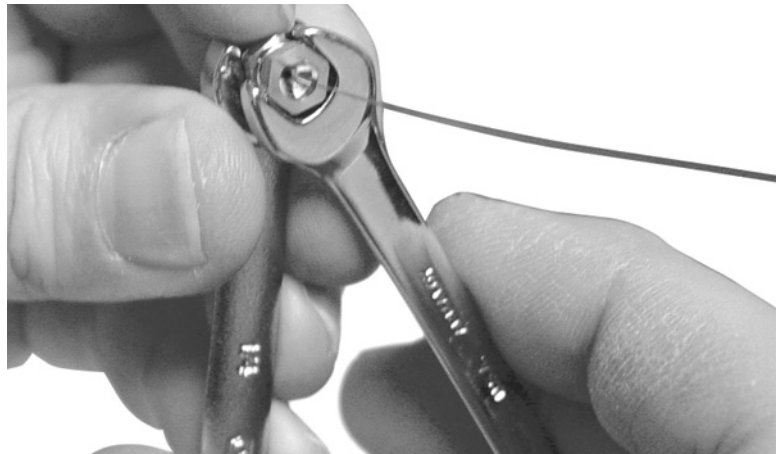

Figure 3 Tightening the swaging nut
- 3** Using two wrenches against each other, tighten the two nuts together a little at a time, occasionally checking to see if the ferrule is gripping the tube (see Figure 3). When the ferrule just starts to grip, notice position of the nuts and then tighten one of the nuts by turning 45 to 60 degrees of rotation, but no more than 60 degrees (one flat).